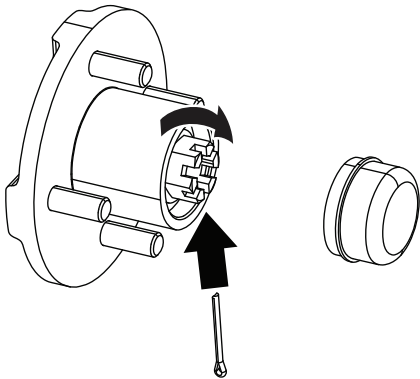

Figure 41
8. Install the nut retainer and check the alignment of the slot in the retainer and the hole in the spindle for the cotter pin (Figure 41).